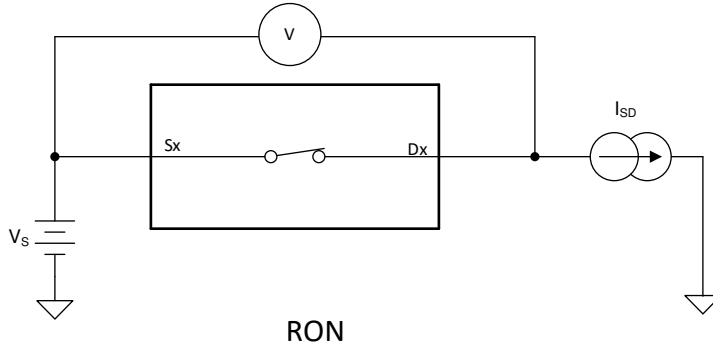

Figure 7-1. On-Resistance Measurement Setup
The on-resistance of a device is the ohmic resistance between the source (Sx) and drain (Dx) pins of the device. The on-resistance varies with input voltage and supply voltage. The symbol  $R_{ON}$  is used to denote on-resistance. Figure 7-1 shows the measurement setup used to measure  $R_{ON}$ . Voltage (V) and current ( $I_{SD}$ ) are measured using this setup, and  $R_{ON}$  is computed with  $R_{ON} = V / I_{SD}$ .